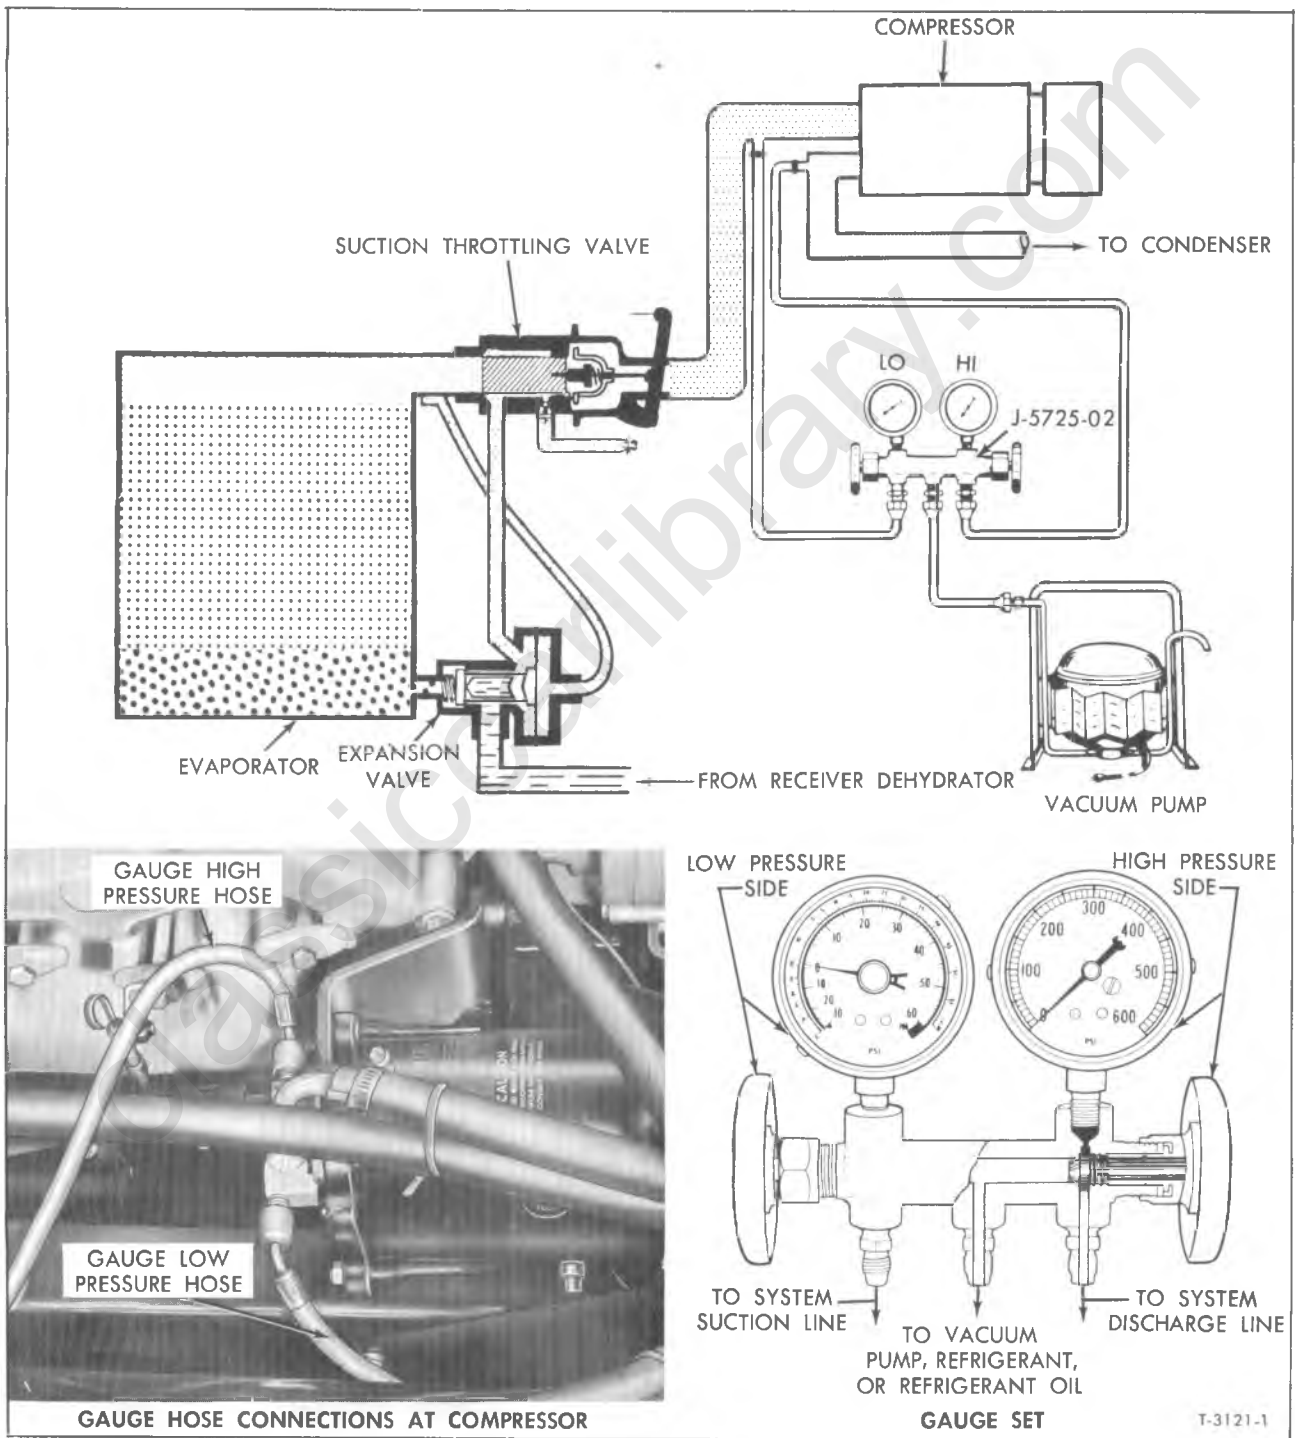

Figure 11—Hook-Up of Gauges and Evacuating Pump
NOTE: Install gauge set to compressor gauge fittings (fig. 11).
2. If gauge set is not already connected to compressor fittings, connect as follows (refer to fig. 11):
3. Attach a flexible gauge hose to the center fitting of the gauge set and attach the other end of this hose to the vacuum pump J-5428-03 (fig. 11).